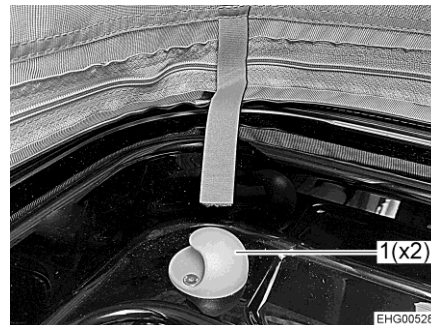

Fig. 58 Holder
- Attach the safety net to the two holders (Fig. 58,1).